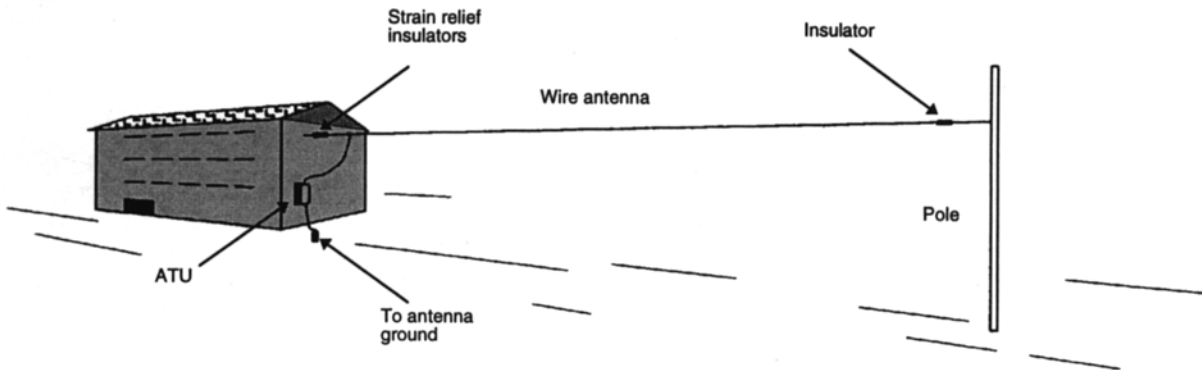

Figure 2-10. Typical Base Station Installation Using a Wire Antenna
Step 3. If a wire antenna is used, connect it directly to the ATU RF output terminal. Use mechanical strain relief similar to the one shown in Figure 2-10.